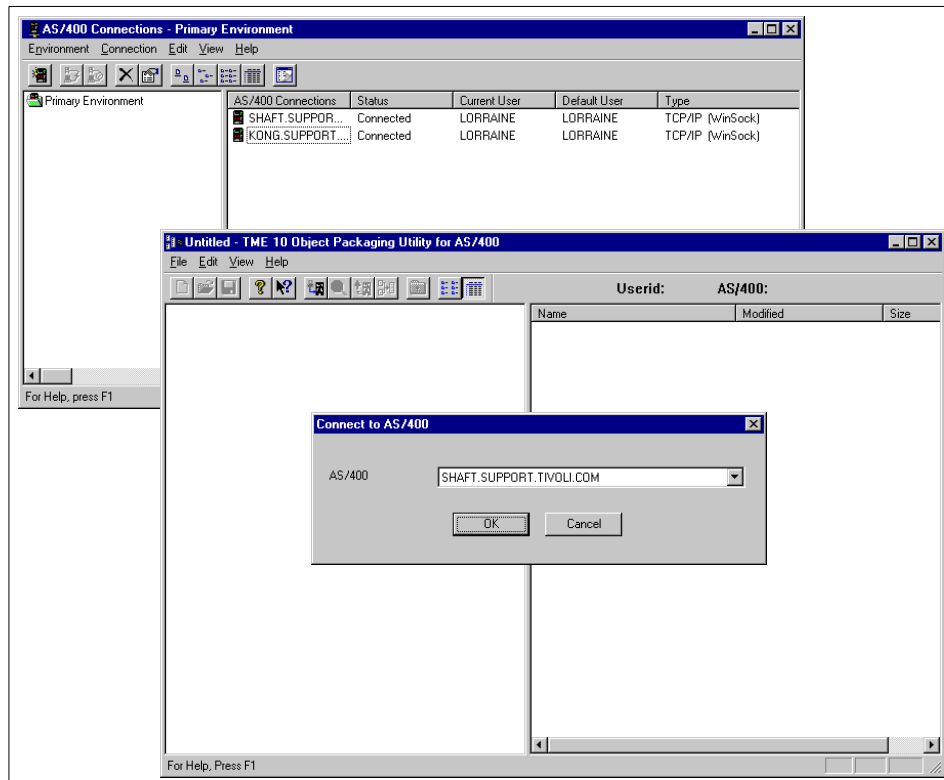

Figure 255. AS/400 Client Access and Tivoli Object Packaging utility for AS/400
3. The Connect to AS/400 dialog is displayed. Enter the name of the AS/400 to be used as the source host as shown in Figure 255 on page 416.